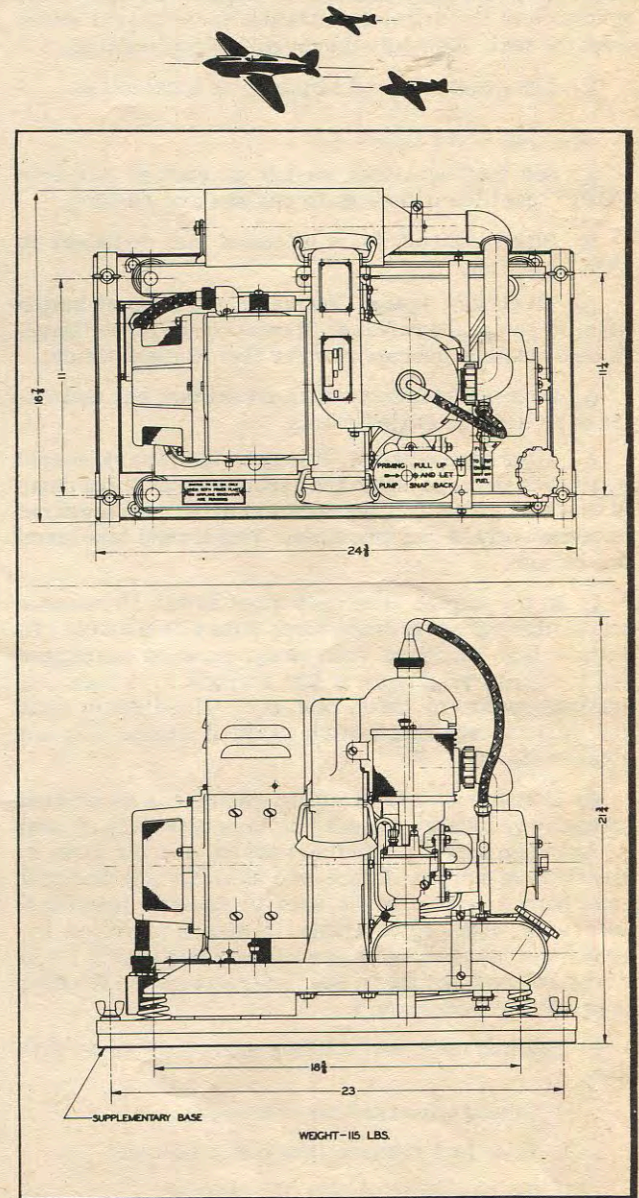

Figure 2 - Dimensional Sketch Power Plant Assembly
a. Take out nails holding base to packing case and remove case from base. Be sure to take out the cleat placed between the base (figure 2) and supplementary base as the unit must be free to "float" on the four shock-absorbing foot springs.
b. Install the supplementary base in the following manner. (See figure 2.)
(1) Base is to be installed, open side of channel up, so that power plant will be level when airplane is in taxiing position.
(2) Drill four mounting holes in channels of supplementary base, locating these holes as necessary to meet airplane structural members.